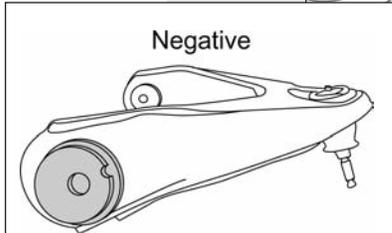

Figure 5
**Installation Note: On the large end cap of each replacement bushing is stamped a reference arrow. Replacement bushings need to be installed in pairs having each reference notch pointing in the same direction with the bolt holes in line with each other. This is to insure that the control arm swings up and down in an arc and the pivot points are level to each other. (See Fig. 5 & 6)**
Having indicating notches on the offset bushings horizontally pointing towards control arm ball joint results in a negative (-) Camber change. **(See Fig. 5)**